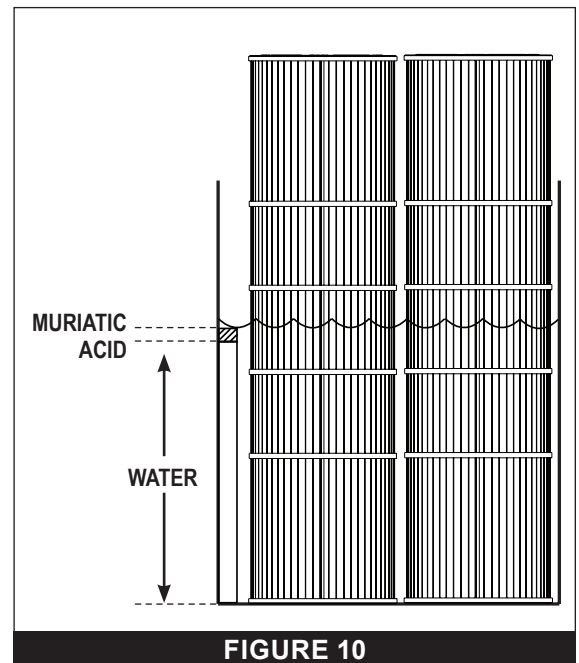

FIGURE 10
3. In a large plastic container, create a solution of one part muriatic acid to twenty parts water. See **FIGURE 10**.